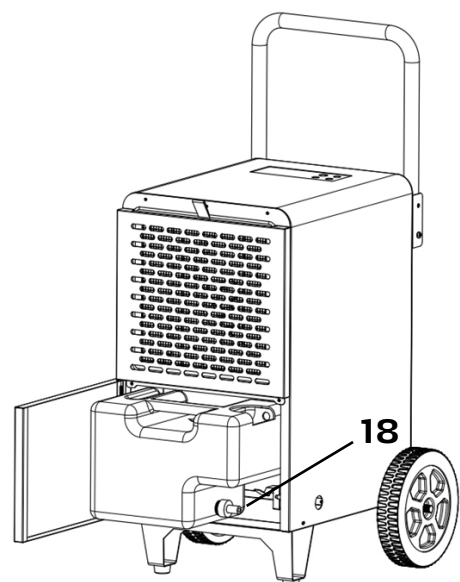

Fig. 8
To extend the building dryer's operating time, you can attach a drain hose to the condensate container. This enables continuous draining of the condensate (see figs. 8 and 9):
- Loosen the seal plug (18) on the drain outlet and pull the plug out (fig. 8 and 9).